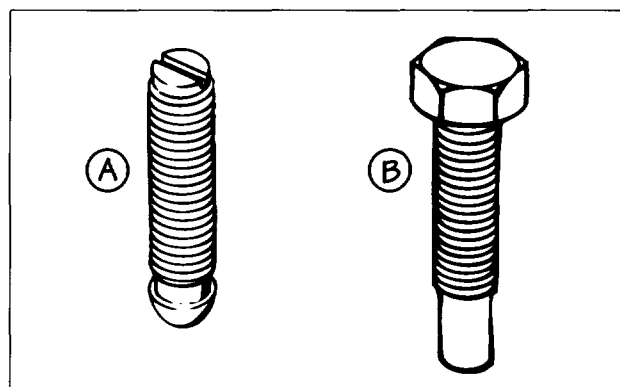

FIG. 14
Note the difference between the Caterpillar (A) and the Jacobs (B) rocker adjusting screw shown in Fig. 14.